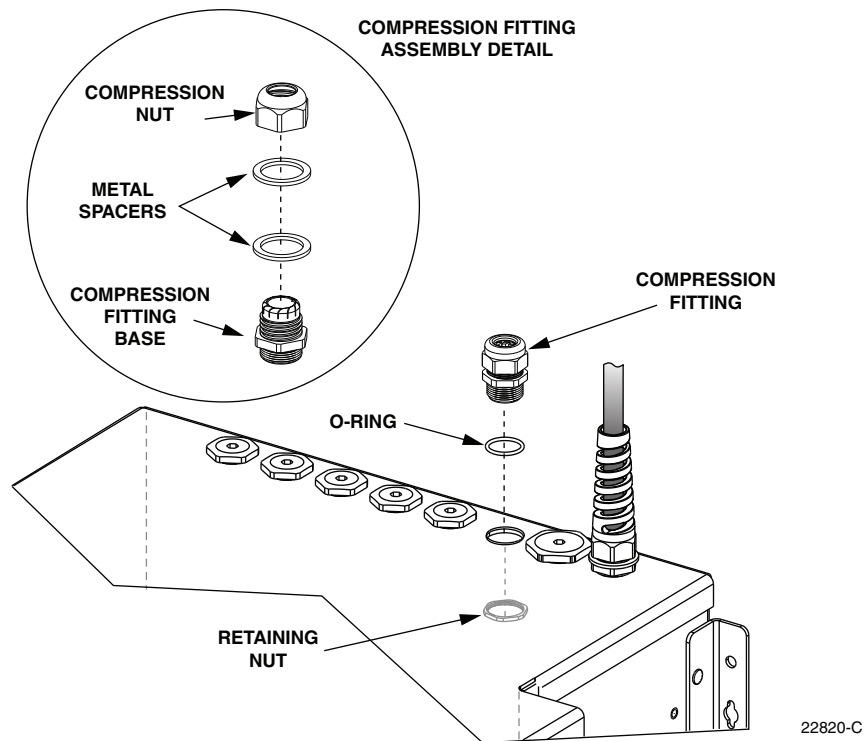

Figure 48. Distribution Cable Compression Fitting
4. Locate one of the distribution cable compression fittings that are shipped with the cabinet and loosely assemble the fitting as shown in Figure 48.